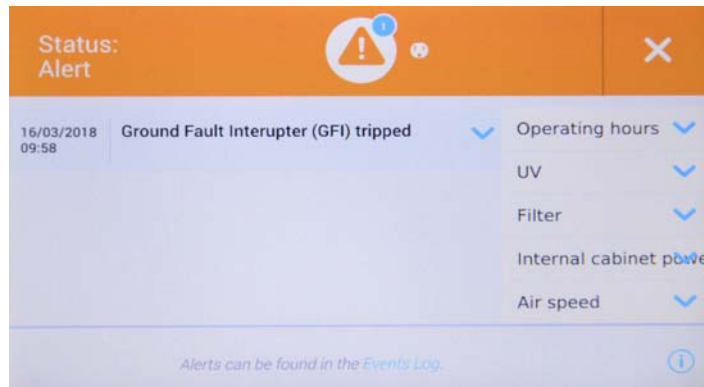

Figure 59 Status Warning Screen with Alert Screen Message, Status Alert GFI
If you tap the warning triangle icon, you will be taken directly to the Status Warning screen with its alert list, shown in Figure 59.
3. Tap the yellow Health Status Warning icon to display the Status Warning screen shown in Figure 59 and review the alerts list.